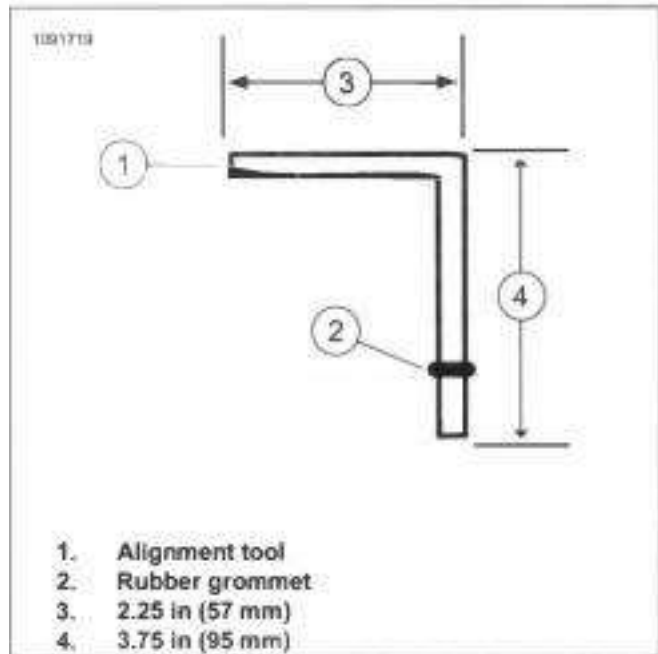
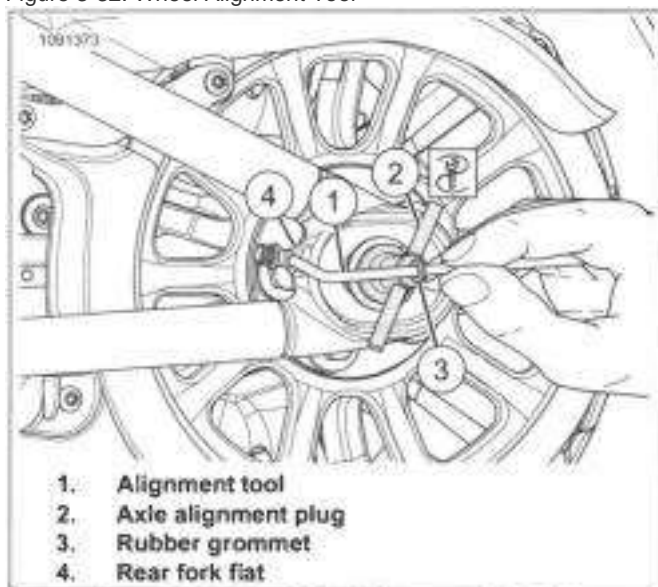
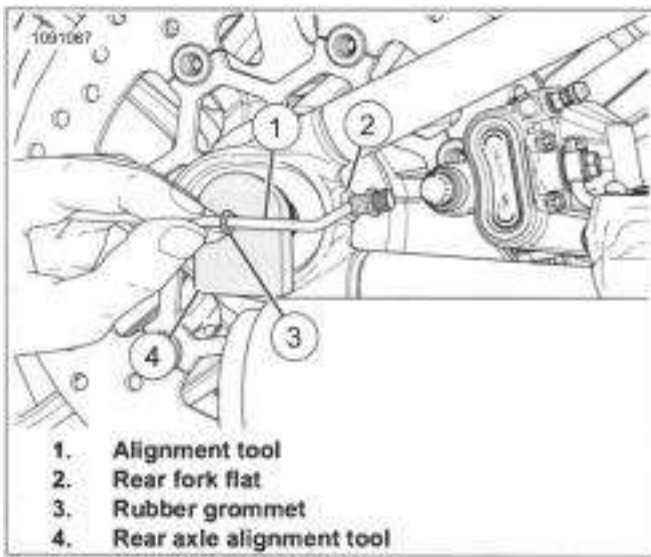

Figure 3-32. Wheel Alignment Tool
Figure 3-33. Rear Axle Alignment: Left Side
Figure 3-34. Rear Axle Alignment: Right Side
- a. See Figure 3-33. Insert alignment plug (2) into left end of rear axle. Turn handle until plug is firmly held in axle.
- b. See Figure 3-34. Install rear axle alignment tool (4) onto right end of rear axle over the e-clip.
1. See Figure 3-32. Fabricate an alignment tool.
- b. Bend rod at a 90 degree angle, 3 in (76 mm) (3) from the flat end.
- c. Place a snug-fitting rubber grommet (2) on rod.
- a. See Figure 3-33. Place end of alignment tool (1) against rear fork flat (4).
- b. Slide rubber grommet (3) along tool shaft until it aligns with hole in center of rear axle alignment plug (2).
- a. See Figure 3-34. Place end of alignment tool (1) against rear fork flat (2).
- b. If necessary, slide rubber grommet (3) along tool shaft until it aligns with hole in center of rear axle alignment tool (4).